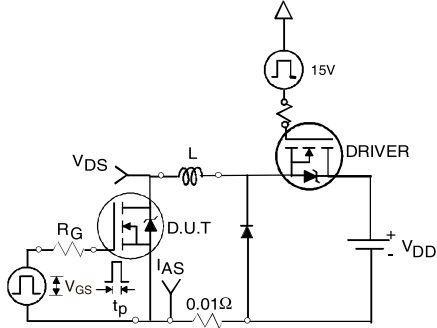

Fig 12a. Unclamped Inductive Test Circuit
- ③ Pulse width ≤ 1.0ms; duty cycle ≤ 2%.
- ④ C_{oss eff.} is a fixed capacitance that gives the same charging time as C_{oss} while V_{DS} is rising from 0 to 80% V_{DSS}.
- ⑤ Limited by T_{Jmax}, see Fig.12a, 12b, 15, 16 for typical repetitive avalanche performance.
- ⑥ This value determined from sample failure population. 100% tested to this value in production.
- ⑦ This is only applied to TO-220AB package.
- ⑧ When mounted on 1" square PCB (FR-4 or G-10 Material). For recommended footprint and soldering techniques refer to application note #AN-994.
- ⑨ TO-220 device will have an R_{th} value of 0.65°C/W.
3. Equation below based on circuit and waveforms shown in Figures 12a, 12b.